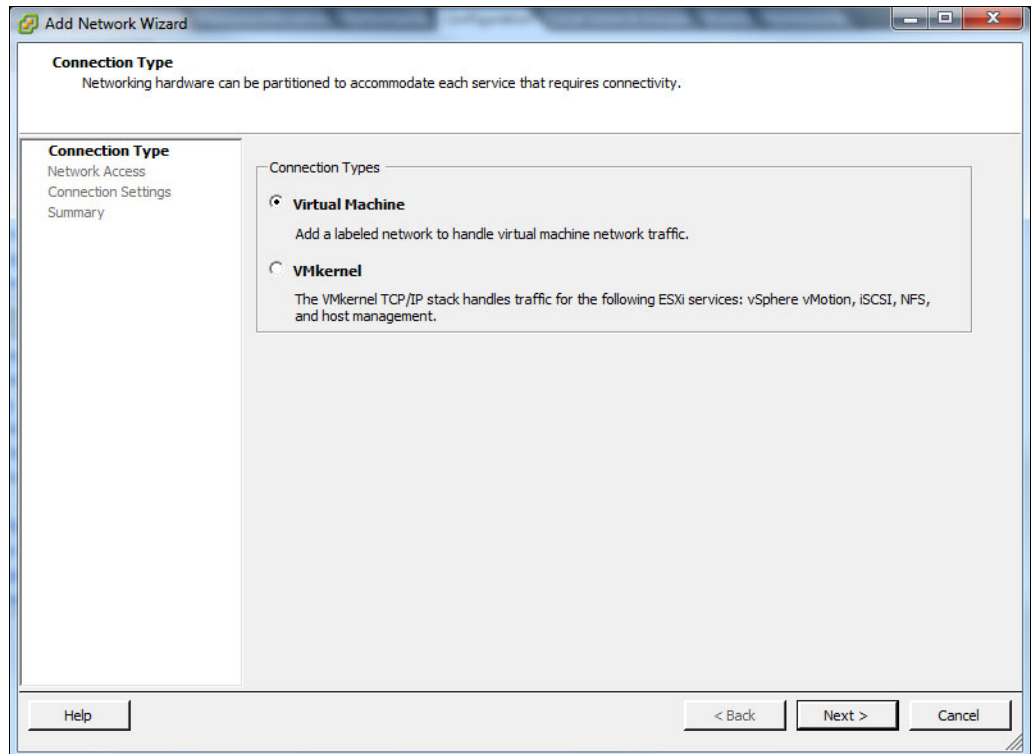

Figure 7-35 Connection types
4. Select **Virtual Machine** and click **Next**, as shown in Figure 7-35.